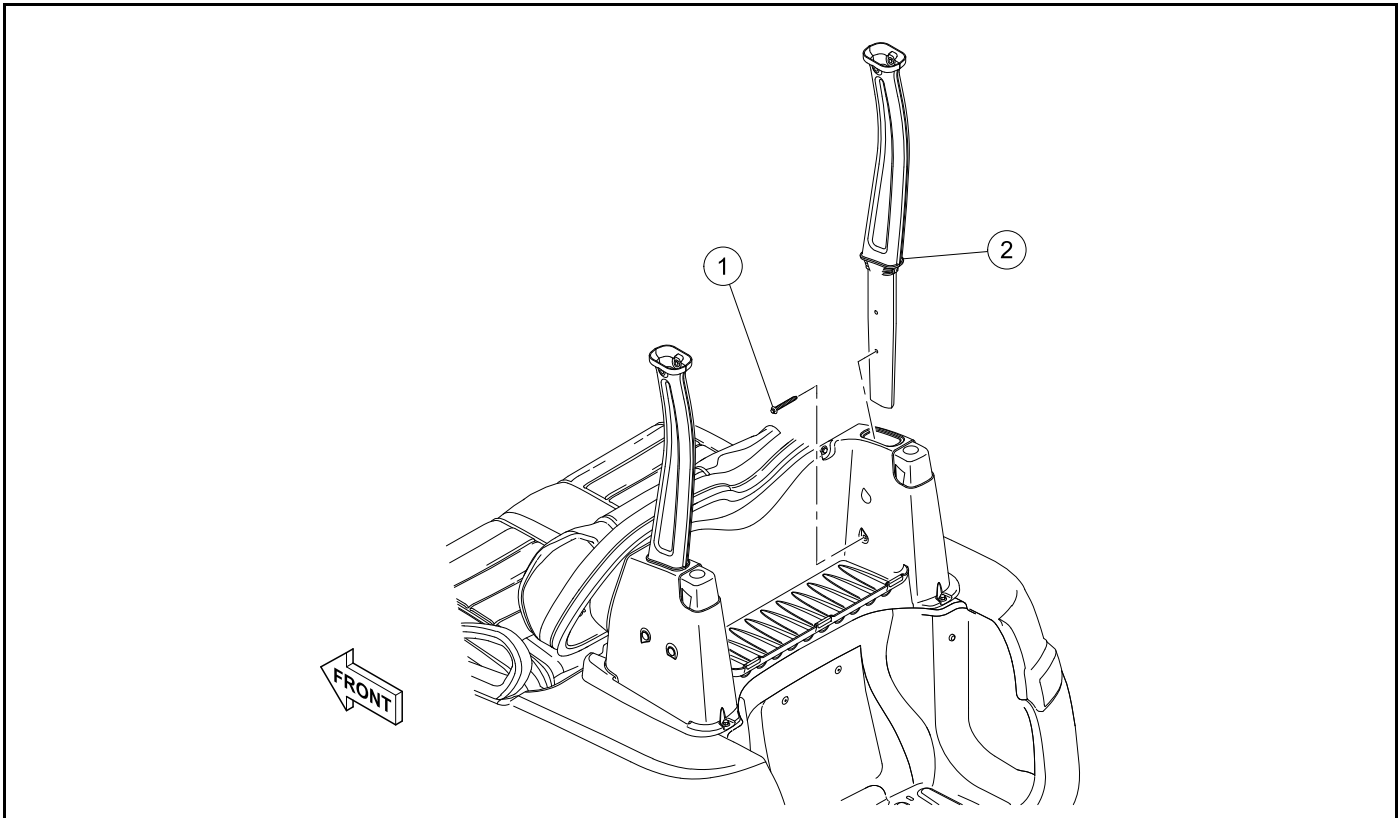

Figure 4-24 Rear Canopy Support Removal
2. Remove the screw (1) (**Figure 4-24**).
3. Remove the rear canopy support (2).